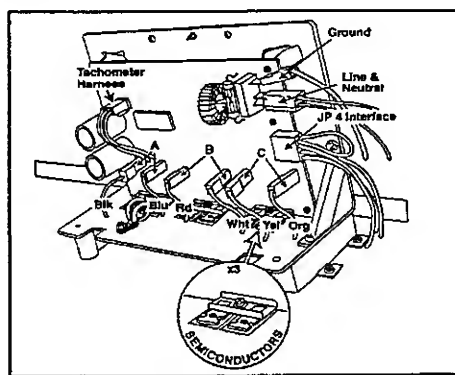

Figure 2-6
Refer to section titled Motor Control for board identification of A, B and C terminal/harness identification (*Figure 2-6*). Also, see the wiring schematic for harness identification.
1. Disconnect power to the machine & connect a power test cord to the Line & Neutral terminals of the Motor Control board. (*Figure 2-6*).
- A. Check the 10 amp fuse located on the control board, either visually or with an ohm meter. If bad, replace motor control/wire harness assembly completely (*Figure 2-6*).
- B. If the fuse is functioning, check the six semiconductors on the heat sink visually for any damage. If damaged, replace motor control/wire harness assembly complete and check motor windings for damage (*See DRIVE MOTOR*). Replace motor if necessary (*Figure 2-6*).
To gain access to the Motor Control Board terminals: (*Figure 2-6*)
6. Connect the power test cord to the Ground wire, Line 1 and Neutral wires. (Leave the JP4 connector off the board.) *(Figure 2-6)*
2. **Disconnect power to the machine & connect a power test cord to the Line & Neutral terminals of the Motor Control board (Figure 2-6).**